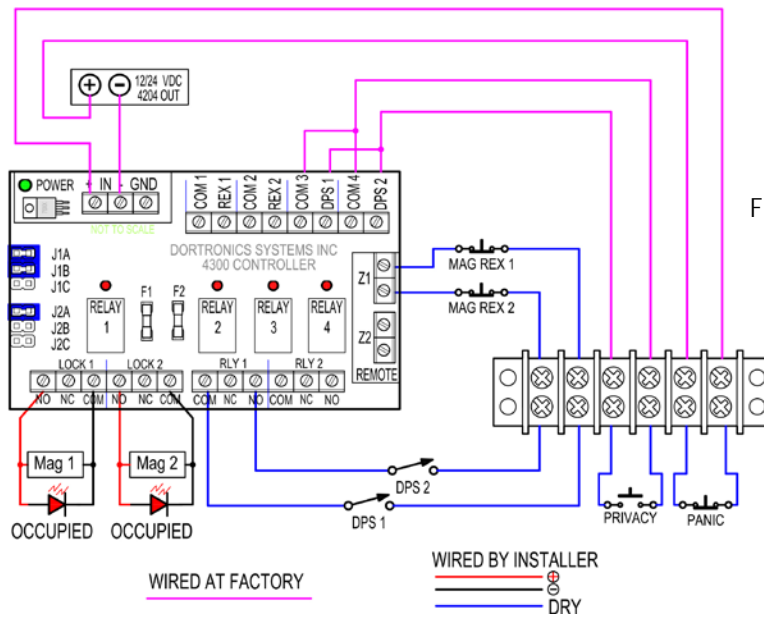
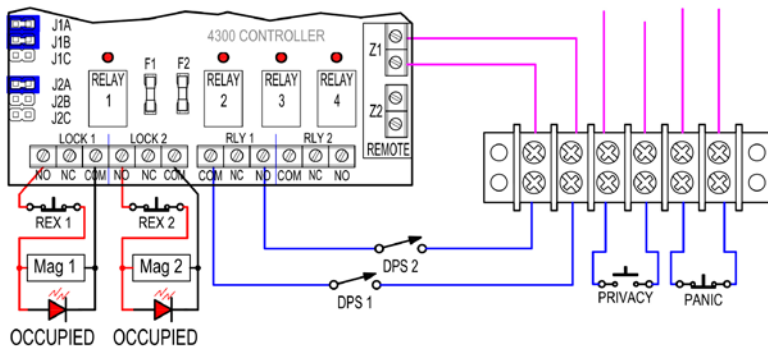

FIG. 4 Mag Lock Hookup
FIG. 5 Alternate Mag Lock Hookup
**Note:** If maglocks are used, additional release switches must be added inside the bathroom to cut power to the maglocks to exit. The maglock release switches can be used to cut power directly by being connected in series with the lock power (Fig 5) or may be inserted in the door position circuit to unlatch the lock circuit (Fig 4) - see alternate connections below.